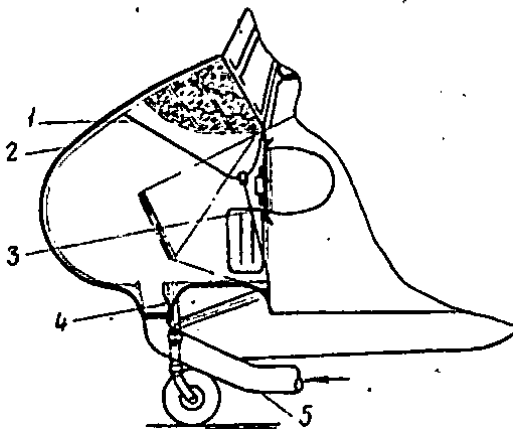

Fig. 10. Engine heating diagram.
3. Heat up the engine through the bottom access door to the fan having removed the lower section of the inner cowl and directing the hot air flow to the engine clutch, and through the bottom access door of the cowl to the supercharger rear section (Fig.10).